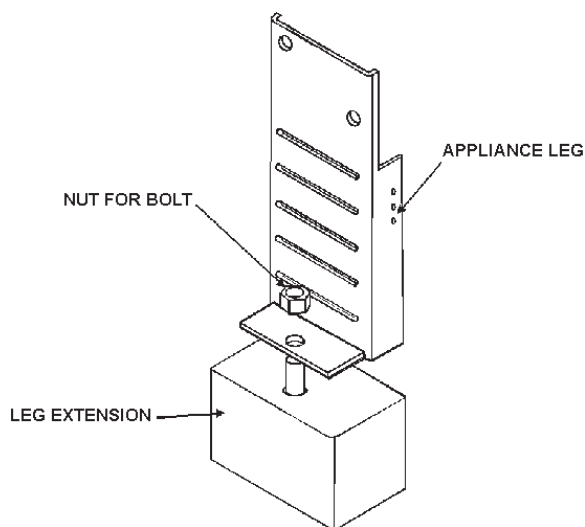

FIGURE 7
4. Front of leg should line up with front of leg extension as shown in Figure 7 to make sure weight of unit is distributed through the leg extension.